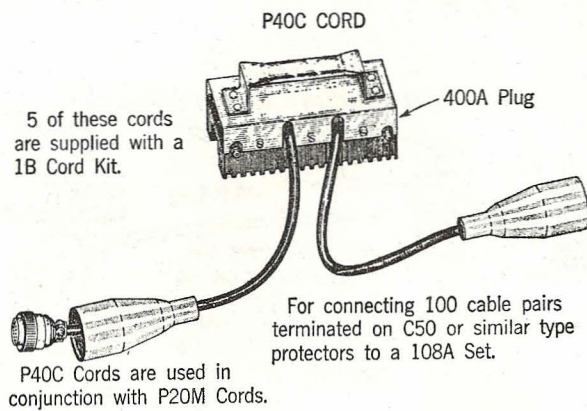

Fig. 11
- 4.09 P40C Cord:** This cord is illustrated in Fig. 11.